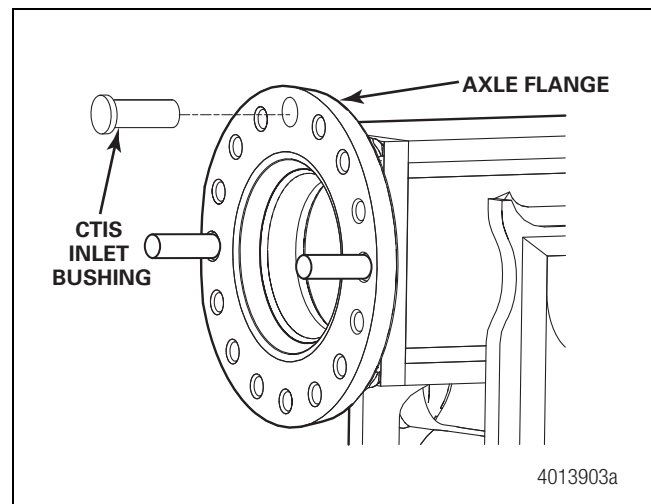

Figure 5.13
1. If the CTIS inlet bushing for the optional CTIS feature was removed, install the bushing by pressing it into the "D"-shaped hole at the 12 o'clock position of the axle housing end flange. Figure 5.13.